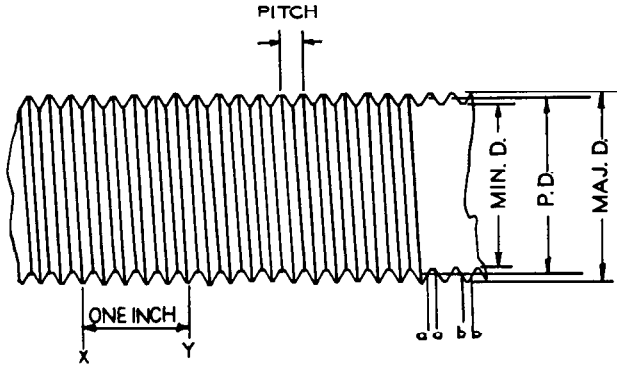

FIG. 13. Thread Cutting Terms.
(Refer to Figure 13, page 12)
**PITCH DIAMETER**—On a straight screw thread, the diameter of an imaginary cylinder, the surface of which would pass through the threads at such points as to make equal the width of the threads and the width of the spaces cut by the surface of the cylinder. In Figure 13 the lines representing the diameter “PD,” are located so as to make spaces “aa” and “bb” equal. On a 60° Vee-type thread and on National Form threads, the pitch diameter is simply the major diameter less the depth of the thread.
**PITCH**—The distance from a point on a screw thread to a corresponding point on the next thread, measured parallel to the axis (see Fig. 13).
**THREADS PER INCH**—The number of complete threads in the space of one inch. In Figure 13, the distance between points X and Y represents one inch, and there are five threads per inch.